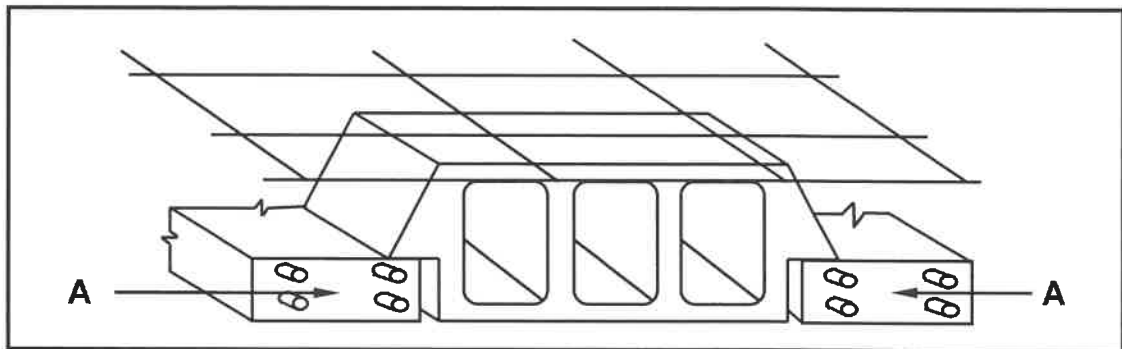

FIGURE 6.5
- 6.5 FIGURE 6.5 below shows a part of a floor construction. Study FIGURE 6.5 and answer the questions that follow.